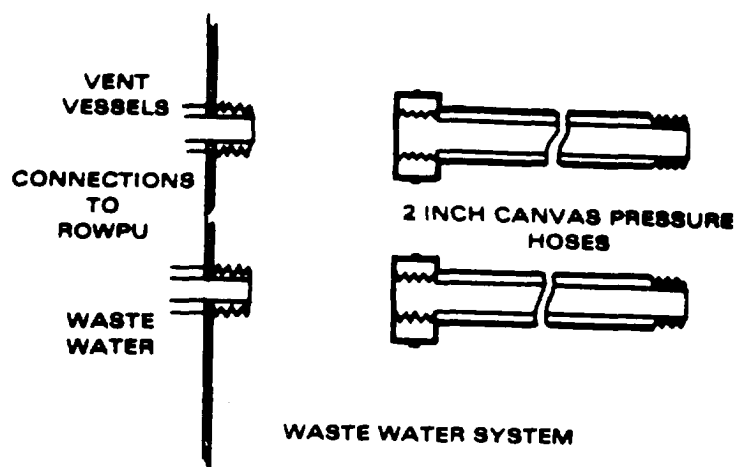

Figure 2-31. Waste Water System
- p. Install the backwash strainer onto the backwash pump frame (fig. 2-31).
- (1) Remove straps securing strainer to backwash pump.
- (2) Remove the two mounting bolts, nuts, and washers from the backwash strainer bracket.
- (3) Remove caps from strainer and pump outlets.
- (4) Attach strainer inlet connection to swivel connector on backwash pump.
- (5) Place backwash strainer bracket against the frame and line up the holes.
- (6) Insert two bolts into mounting holes, placing washers and nuts as required.
- (7) Tighten all connections.